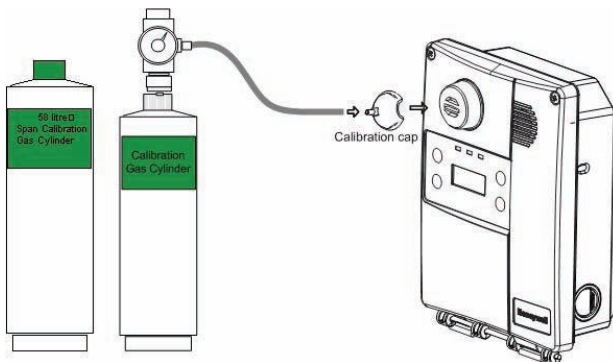

Figure 10. Calibration Installation
- Connect the tubing from the regulator to the sensor calibration cap as shown in Figure 10.
- Connect the tubing from the regulator to the sensor calibration cap. See Figure 10.